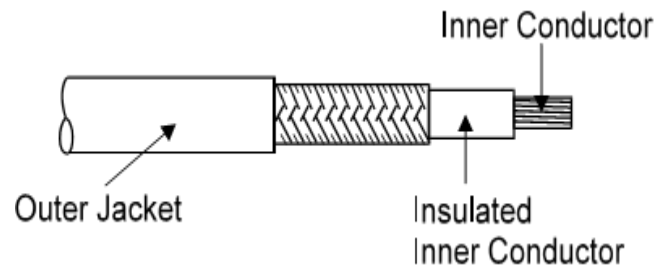

Figure 3-8
22. Cut away the excess braiding using side cutters to expose the insulated inner conductor. Be careful not to damage the insulation of the inner conductor with the cutters. Using the knife, repeat step two removing the insulation surrounding the inner conductor. The finished cable will appear as depicted in Figure 3-8.
When the handles are partially released, the stripper jaws remain open so the wire can be removed without kinking the conductor. (refer to Fig 3-8, step c).